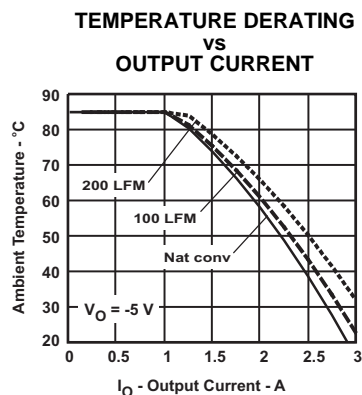
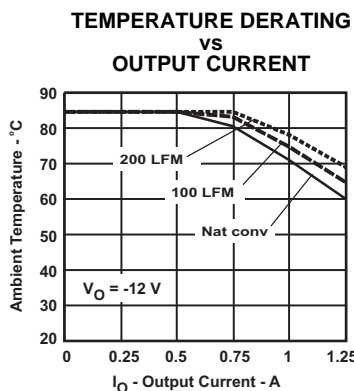
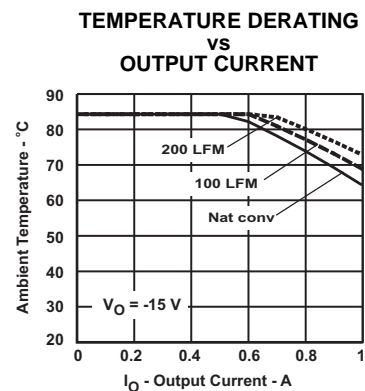

Figure 4.
Figure 5.
Figure 6.
- (2) The temperature derating curves represent the conditions at which internal components are at or below the manufacturer's maximum operating temperatures. Derating limits apply to modules soldered directly to a 100 mm x 100 mm, double-sided PCB with 2 oz. copper. For surface mount packages (AS and AZ suffix), multiple vias (plated through holes) are required to add thermal paths around the power pins. Please refer to the mechanical specification for more information. Applies to Figure 4, Figure 5, and Figure 6.